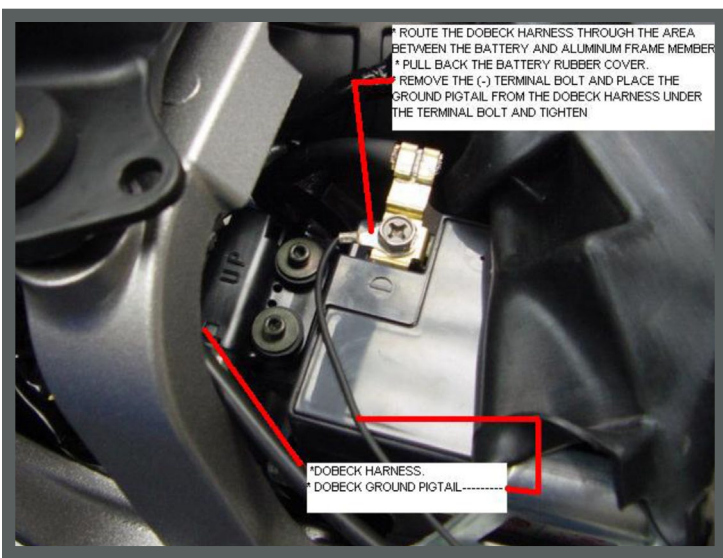

Figure 7
10. Route the Optimizer harness connectors between the battery and the **aluminum frame member**. (See Fig 7)